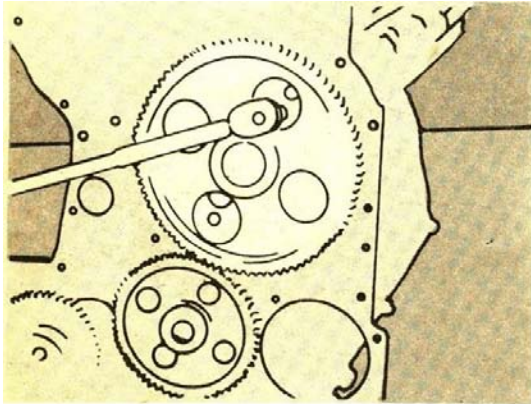

Fig. 14-22, Tighten the camshaft thrust plate
5. Secure the camshaft thrust plate to the block. Tighten the cap screws to 30 to 35 Ft.lbs (41 to 47 Nom) torque. Fig. 14-22 Bend lock plates.